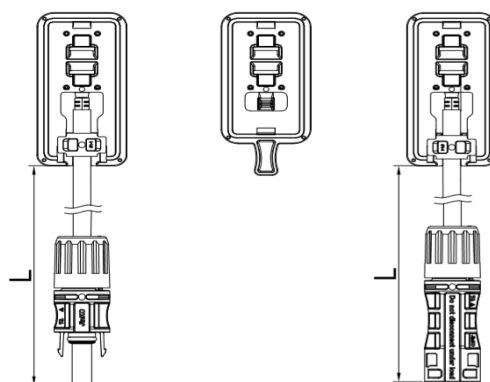

Fig. 6 The half-cut cell module/ split junction box
The installation position under different installation methods for different module types	Clamp installation on long side (+5400Pa, - 2400Pa) L in Fig. 6
- h) The length of the junction box shall be determined according to the component specifications and the customer's design proposal. As shown in Figure 6 below, consider the length of the lead wire before designing the wiring.